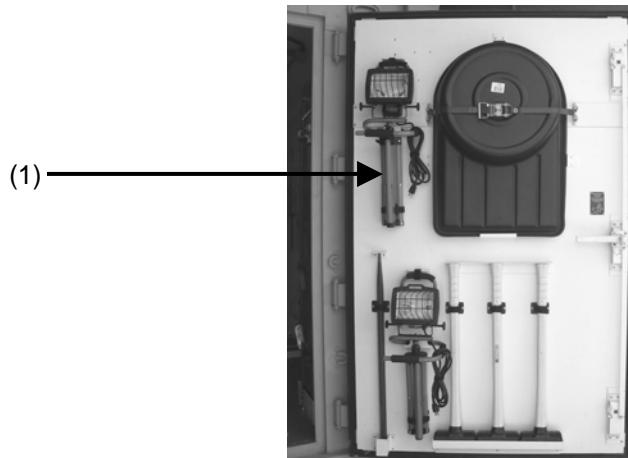

Figure 2-20. View of inside of personnel door.
1. Remove area lights (1) from stowage location inside container on inside of personnel door (Fig. 2-20).